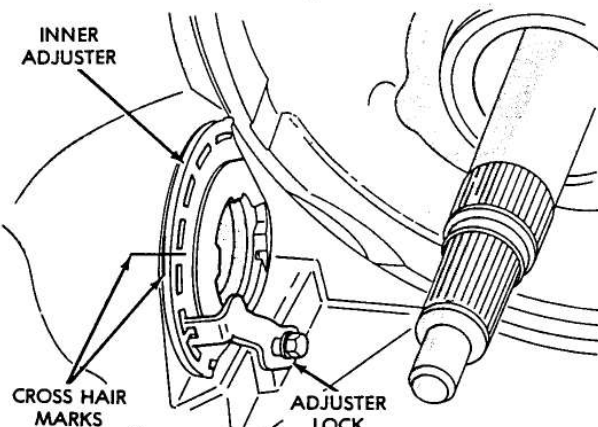

Fig. 18 Indexing Inner Adjuster
- (5) Index the inner differential adjuster with a "cross hair" as shown in figure 18.